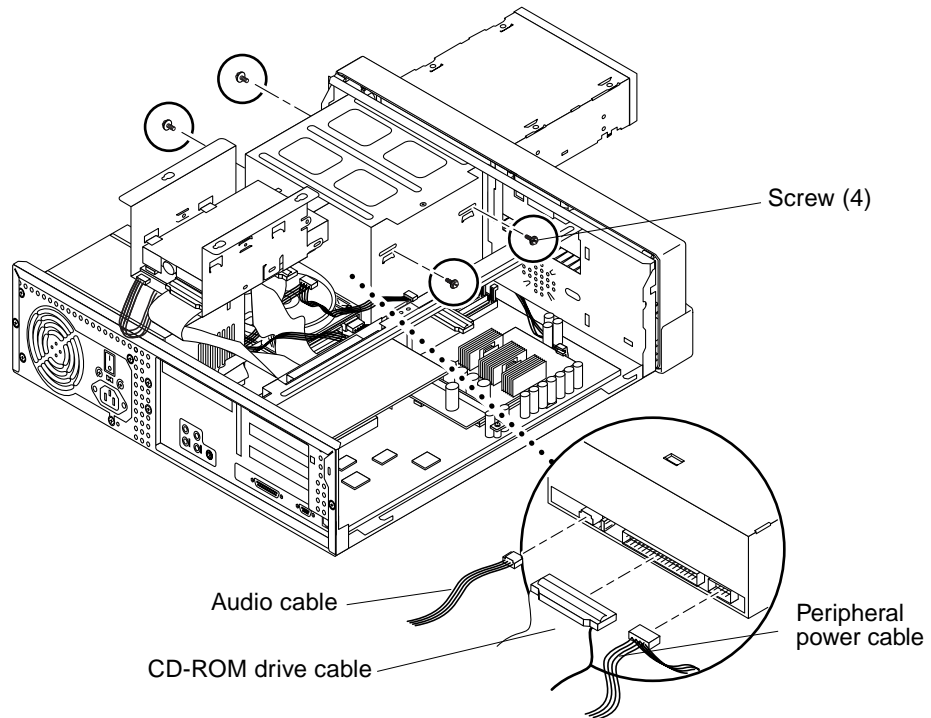

FIGURE 7-8 Removing and Replacing a CD-ROM Drive
2. Remove the CD-ROM drive as follows (FIGURE 7-8):
Replace the CD-ROM drive as follows (FIGURE 7-8):